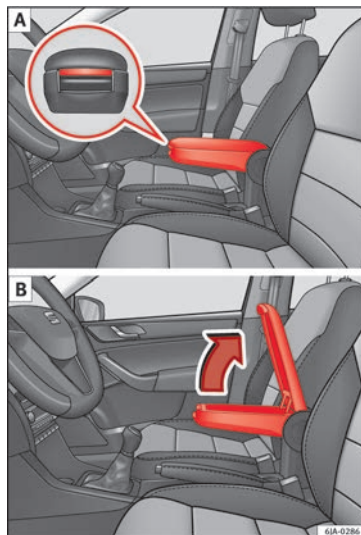

Fig. 144 Armrest/Opening and closing the storage compartment.
- Press the button located on the front of the armrest » **Fig. 144 - A**.
- Lift the storage compartment lid » **Fig. 144 - B**.